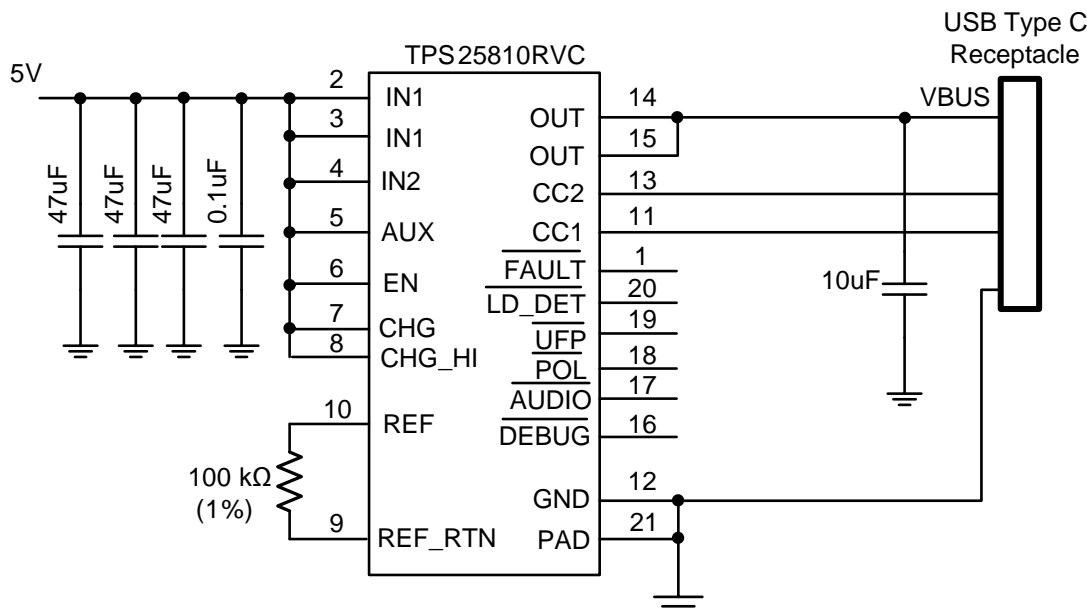

Figure 20. Type-C DFP Port Implementation without BC 1.2 Support
Figure 20 shows a minimal Type-C DFP implementation capable of supporting 5-V and 3-A charging.
The TPS25810 device supports three different input voltages based on the application. In the simplest implementation all input supplies are tied to a single voltage source as shown in Figure 20 which is set to 5 V. However, it is recommended to set a slightly higher (100 mV to 200 mV) input voltage, when possible, to compensate for IR drop from the source to the Type C connector.
- Depending on the max current level advertisement supported by the Type-C port in the system, set CHG and CHG\_HI levels accordingly. 3 A advertisement is shown in Figure 20.